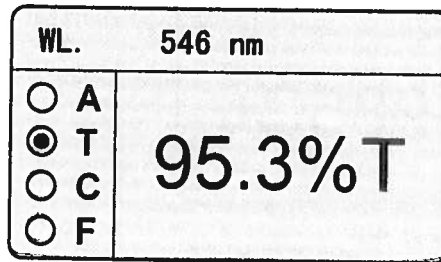

Fig. 4-6
- 4) Pull the Unknown Concentration Sample in the light path, then the value displayed on the screen is the one you need. (Fig. 4-6).